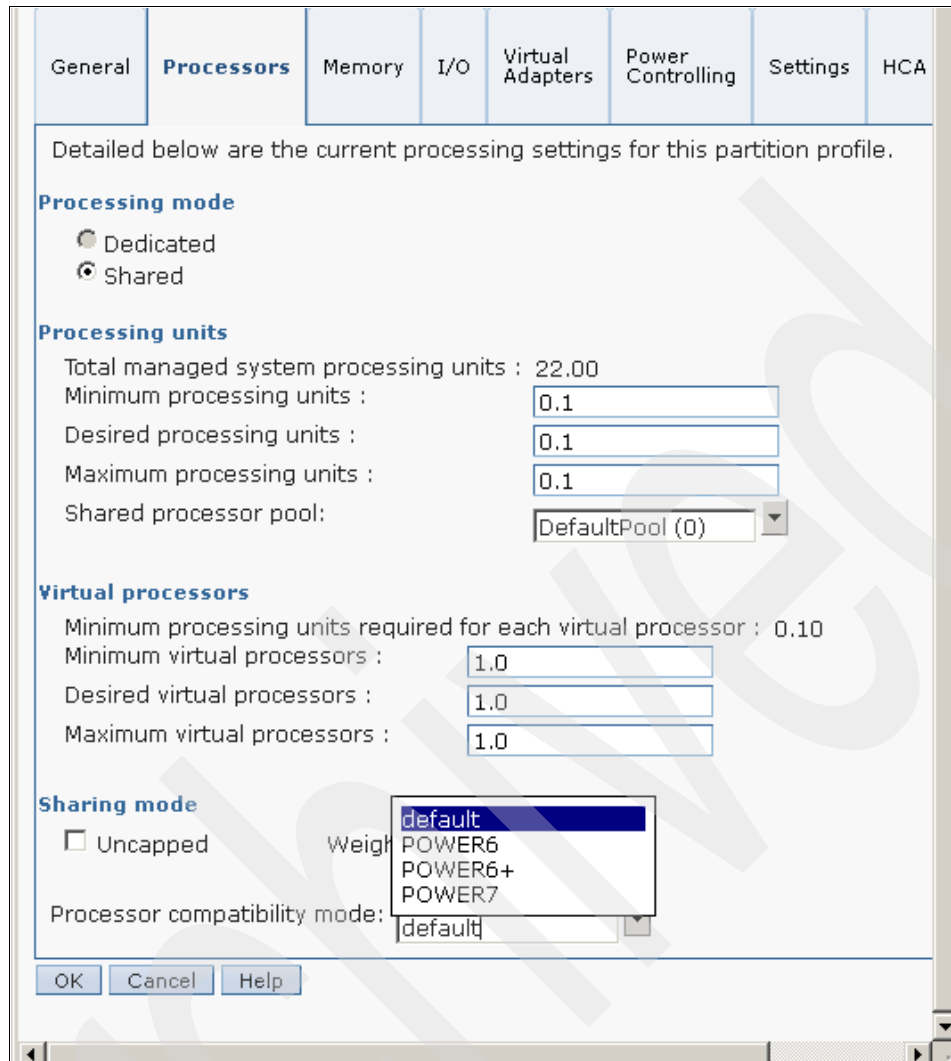

Figure 4-29 POWER7 Processor compatibility Mode
9. Select the profile that you need to edit. Select the **Processor** tab. On the Processor tab, select the appropriate mode on the Processor compatibility mode list box, as shown in Figure 4-29 on page 149.